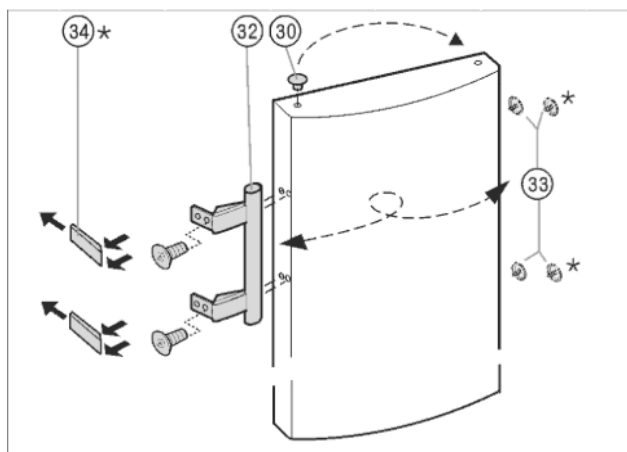

Fig. 8
- Lift the stopper Fig. 8 (30) out of the door bearing bush and transfer it.
- Dismantle the door handle Fig. 8 (32), stoppers Fig. 8 (33) and pressure plates\* Fig. 8 (34) and transfer to the opposite side.